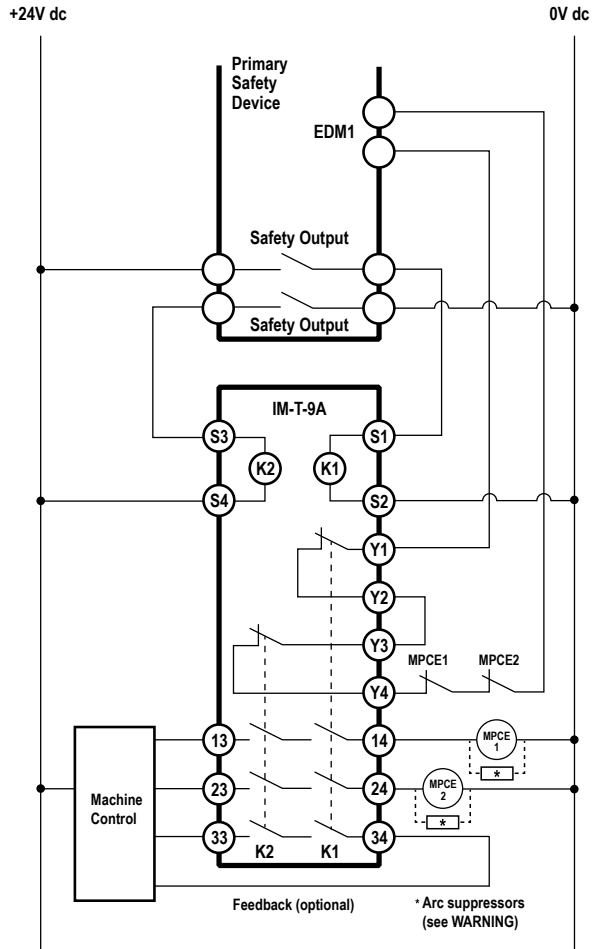

Figure 4. Generalized hookup to a 2-channel primary safety device with two hard-contact safety outputs and one monitoring contact feedback input.
**CAUTION:** When FSD1 switches +24 V dc and FSD2 switches 0 V dc (Figures 4 and 5), a short circuit between the wires leading to S1, S2, S3 and S4 is detected immediately and K1 and K2 de-energize. However, a short circuit can result in a high current through the FSD1 and FSD2 contacts, so the current coming from the 24 V dc supply connected to FSD1 and FSD2 must be fused or limited to 6 amps max. Otherwise, damage to the primary safety device may result.